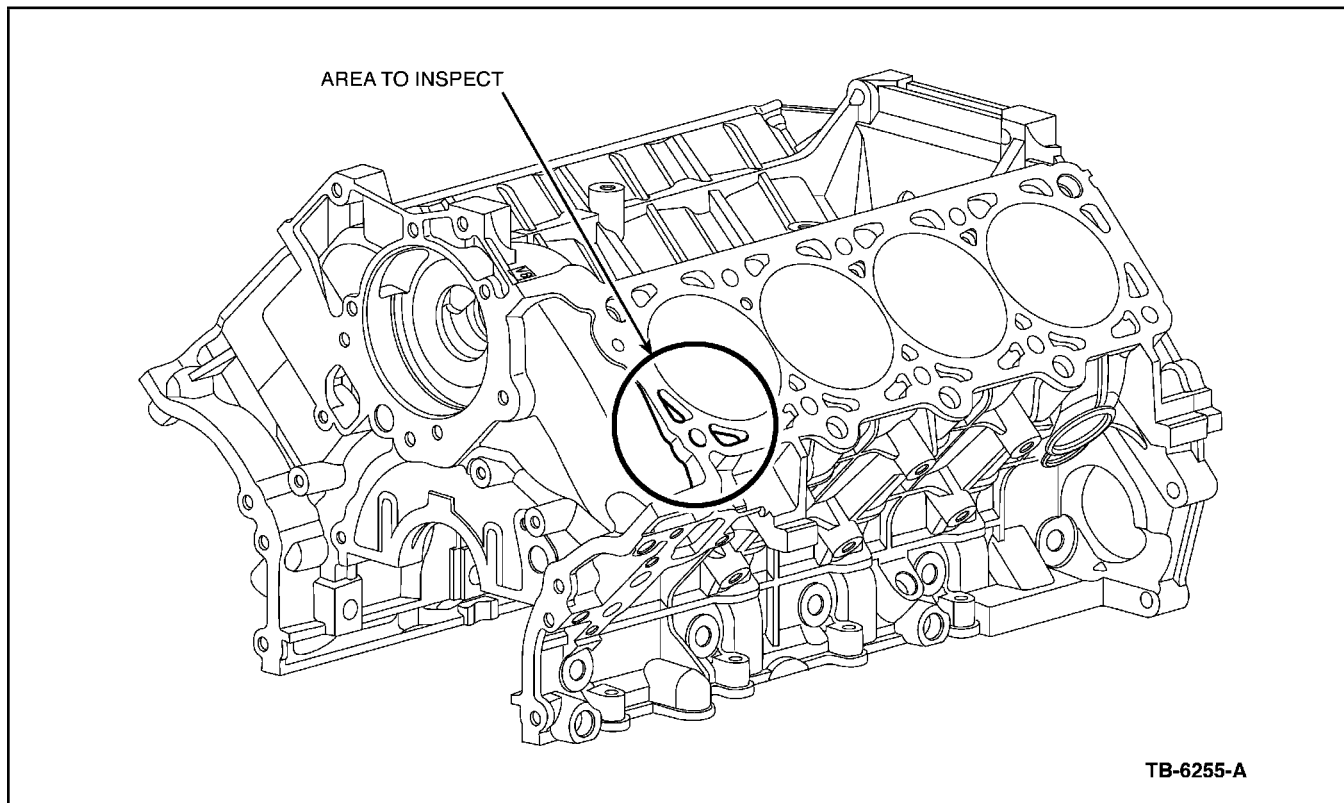

Figure 2 - Article 01-21-10
- During normal inspection, pay particular attention to the RIGHT bank block deck area behind cylinder #4 or the LEFT bank block deck area in front of cylinder #5 around the oil hole breakout for dimples and impressions left by metal chips (Figures 2 and 3).